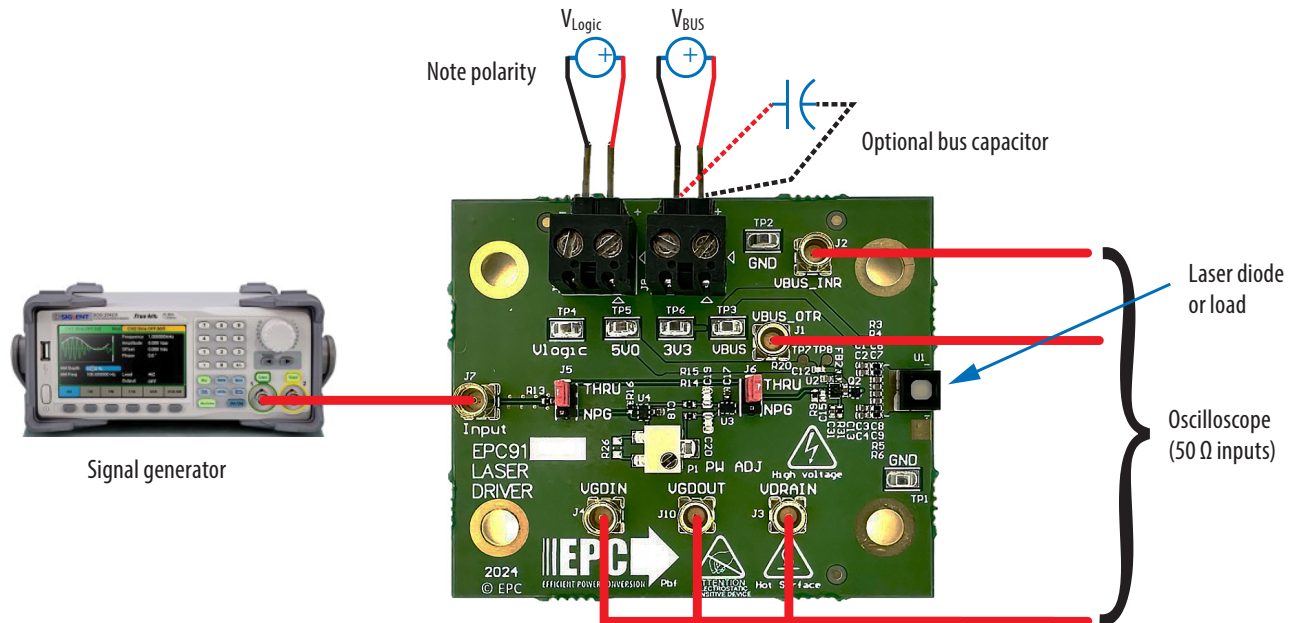

Figure 5. Connection and measurement setup
The procedure in this section provides basic instructions to operate the boards in the default (as shipped) configuration. Refer to Figure 5 for proper connection and measurement setup and follow the procedure below:
3. With power off, connect the main power supply to V_{BUS} (J8), taking care to observe the correct polarity. Note that under certain conditions, e.g. bursts of high frequency pulse trains, some combinations of power supply and cabling may cause transients on V_{BUS} . This can be mitigated with the addition of an electrolytic capacitor at the V_{BUS} terminals on the PCB. A recommended starting point is 330 μF (see Fig. 5).
The laser load is an ams OSRAM EGA2000-940-W VCSEL. It is selected based on availability and because it can be mounted directly to the PCB with no interposer (see Figure 5). This allows one to minimize the power loop inductance.